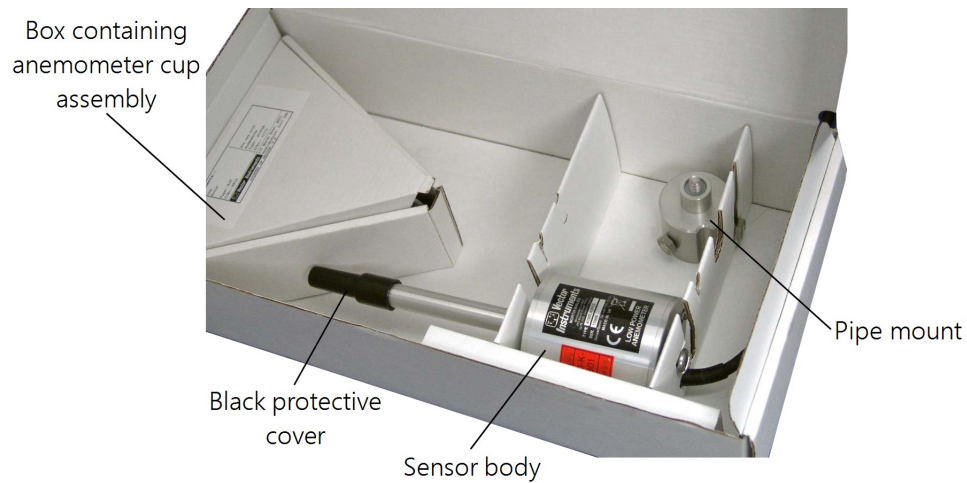

Figure 7-1. Shipping box
- Anemometer cup assembly (see Figure 7-1 [p. 8])
- Sensor body (see Figure 7-1 [p. 8])
- Pipe mount (see Figure 7-1 [p. 8])